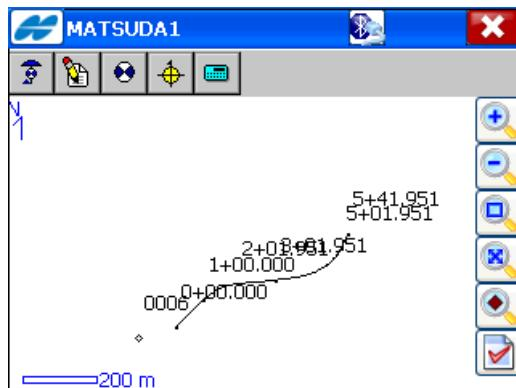

Figure 3-29. List Menu Icons
- *Use Icons* – check and enable this box to use the icon main menu instead of the list of names (Figure 3-29 on page 3-32).